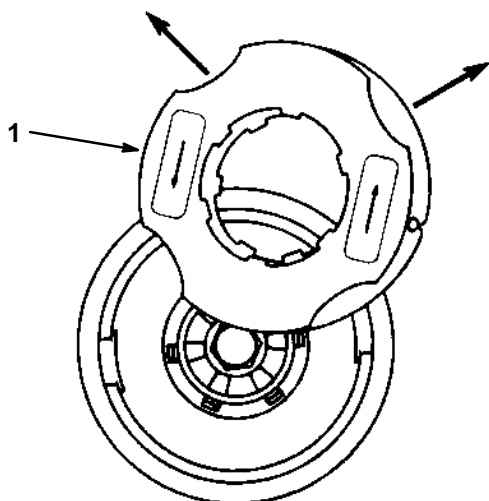

Figure 18
2. Remove the empty spool from the head (Fig. 18).